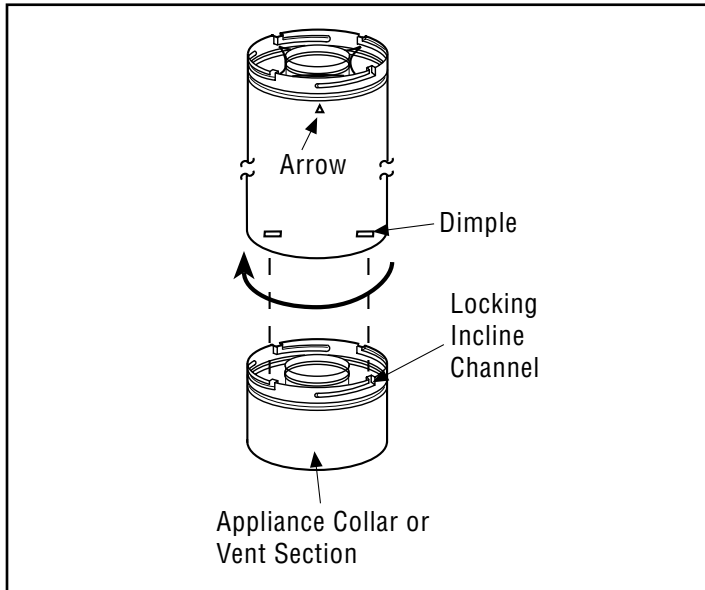
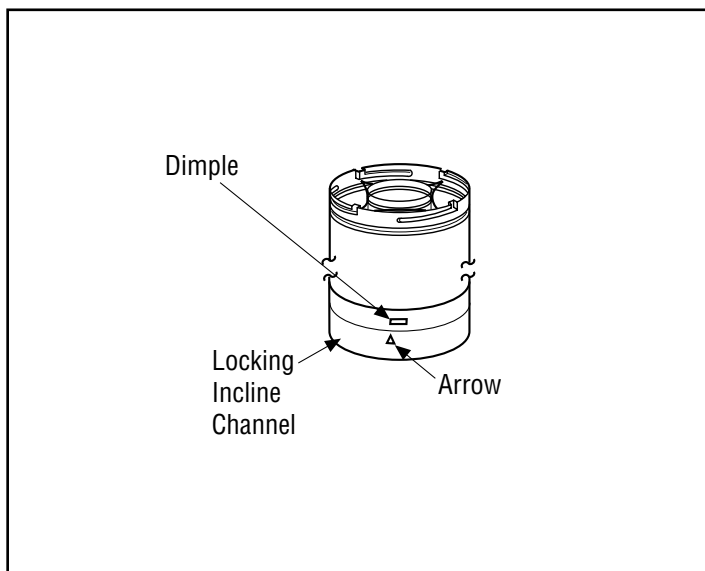

Figure 11 - Connecting vent components
Figure 12 - Connected vent components
Direct-vent system components are unitized concentric pipe components featuring positive twist lock connections (**Figure 11 and Figure 12**). All of the fireplaces covered in this document are fitted with collars having locking inclined channels. The dimpled end of the vent components fit over the fireplace/vent collar to create the positive twist lock connection.
1. Align the dimpled end over the collar, adjusting the radial alignment until the four (4) locking dimples are aligned with the inlet of the four (4) inclined channels on the collar (**Figure 11**).
2. If desired, a #6 x 1/2" screw can be used at the joint, but is not required as the pipe will securely lock when twisted (**Figure 12**).